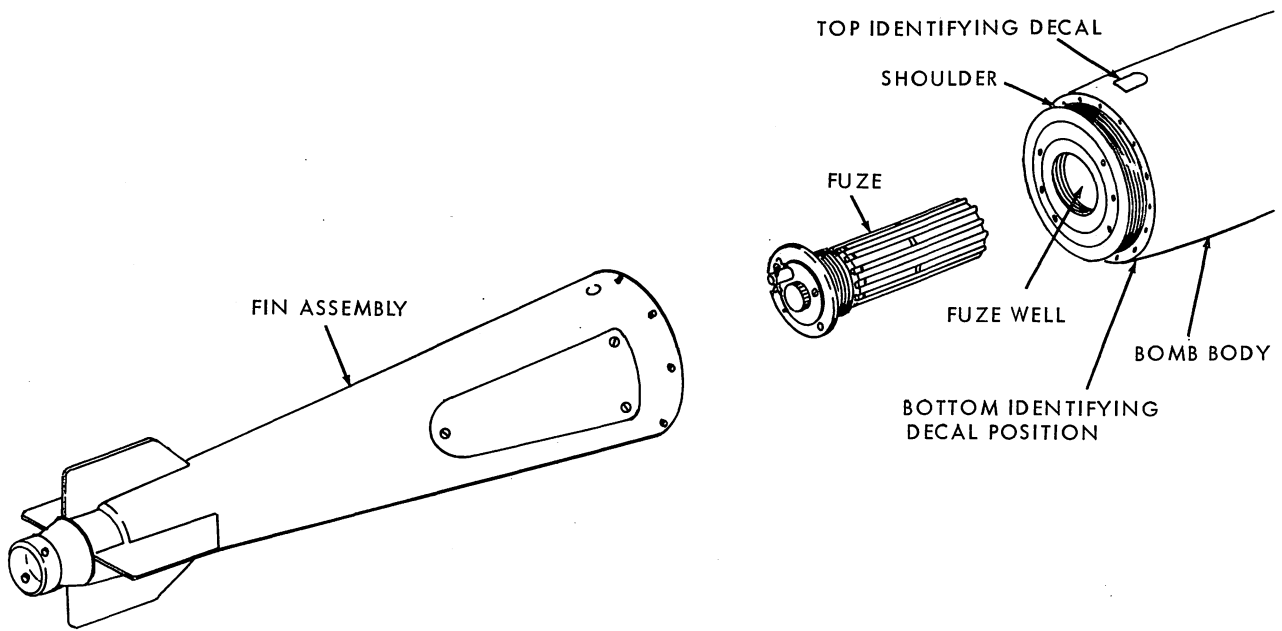

Figure 2-6 M990 Installation in Mk 80 Series
6. Referring to Figure 2-6, insert the fuze into the tail well and screw the threaded flange of the Safety Device with the well. For conical-fin bombs, tighten the fuze until the safety pin assembly on the Safety Device is in the 12 o'clock position (in line with the bomb suspension hooks). The fuze should be tightened sufficiently with the spanner wrench to compress the O-ring slightly.
7. Install the two identifying decals on the bomb body in the six-and-twelve-o'clock position as shown in Figure 2-6. Procedures for affixing decals are packed with the decals.